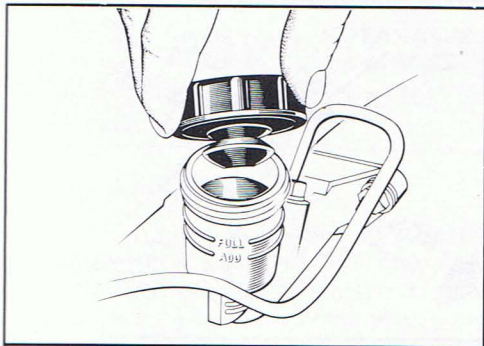

Figure 2 - Clutch fluid reservoir
2. If it is necessary to add fluid, clean the cover and area around it to prevent foreign matter from entering the reservoir when the cover is removed. Unscrew and remove the reservoir cover. See Figure 2.